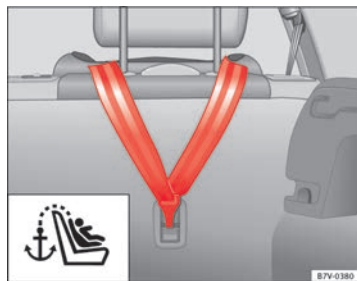

Fig. 28 Upper retaining strap hooked in the luggage compartment
- Hook the upper retaining strap to the corresponding retaining ring (for TOP TETHER) on the back of the backrest on the rear seat ⇒ fig. 28.